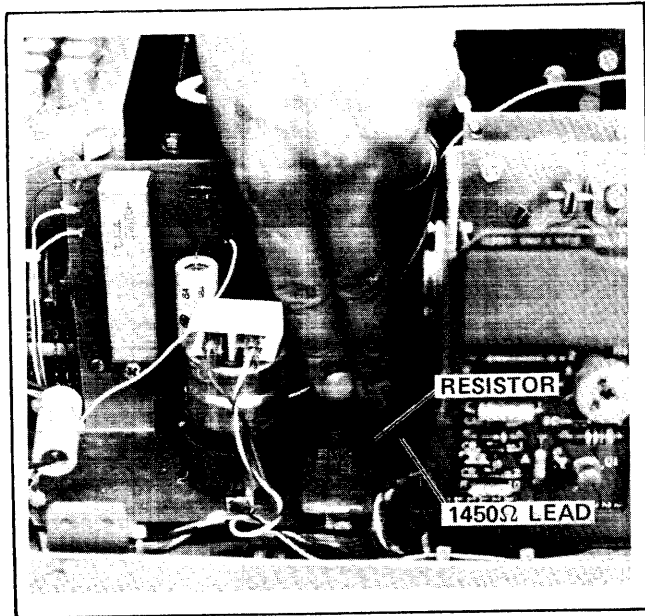

Figure 5-7. Current Source Resistor
(1) The current source resistor value must be changed to 1450Ω. This is accomplished by moving a single wire (see Figure 5-7).